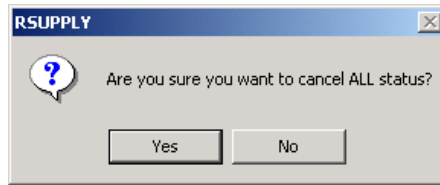

Figure 6.18
6.5.2.1 Select **Release** or **Cancel** on each row or use the (**Release All**) or (**Cancel All**) buttons to release/cancel all status requests. When **Release All** is selected, the user receives a **Batch Request Confirmation** message. When **Cancel All** is selected, the user is prompted to select **Yes** or **No** on the **RSupply** message window (Figure 6.18) that appears.